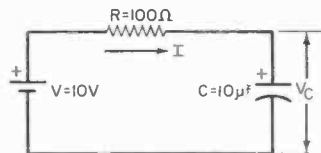

Fig. 4
Ex. 1. For the circuit in Fig. 4, determine I at (a) $t = 0$, $I(0)$ and (b) in steady state, $I(\infty)$. (c) What is the time constant of the circuit? *Sol.* (a) $I(0) = 10/100 = 0.1$ A. (b) $I(\infty) = 0$. (c) $T = RC = 100 \times 10 \times 10^{-6} = 10^{-3}$ s = 1 ms.
Ex. 2. For the circuit in Fig. 4, find the voltage across the capacitor, V_c , at (a) $t = 0$ and (b) $t = \infty$. *Sol.* (a) Because the capacitor acts like a short circuit at $t = 0$, $V_c(0) = 0$. (b) Because the capacitor acts like an open circuit in steady state, $V_c(\infty) = 10$ V.
B. Functions of Time. For times between $t = 0$ and $t = \infty$, the current and voltage as functions of time for the circuit in Fig. 4 may be expressed by: